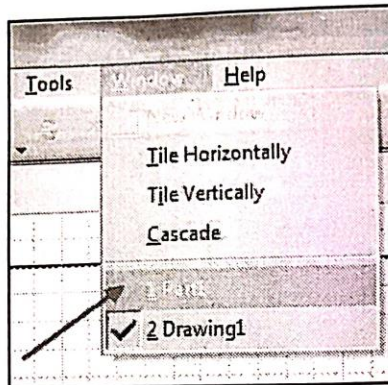

Fig. 4.29
Step 4: Now select the part drawing from window menu for which you want isometric view as shown in Fig. 4.29.